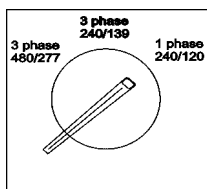

Figure 40. Voltage Selection Switch
5. Check the voltage selection switch (Figure 40) is at the desired voltage.